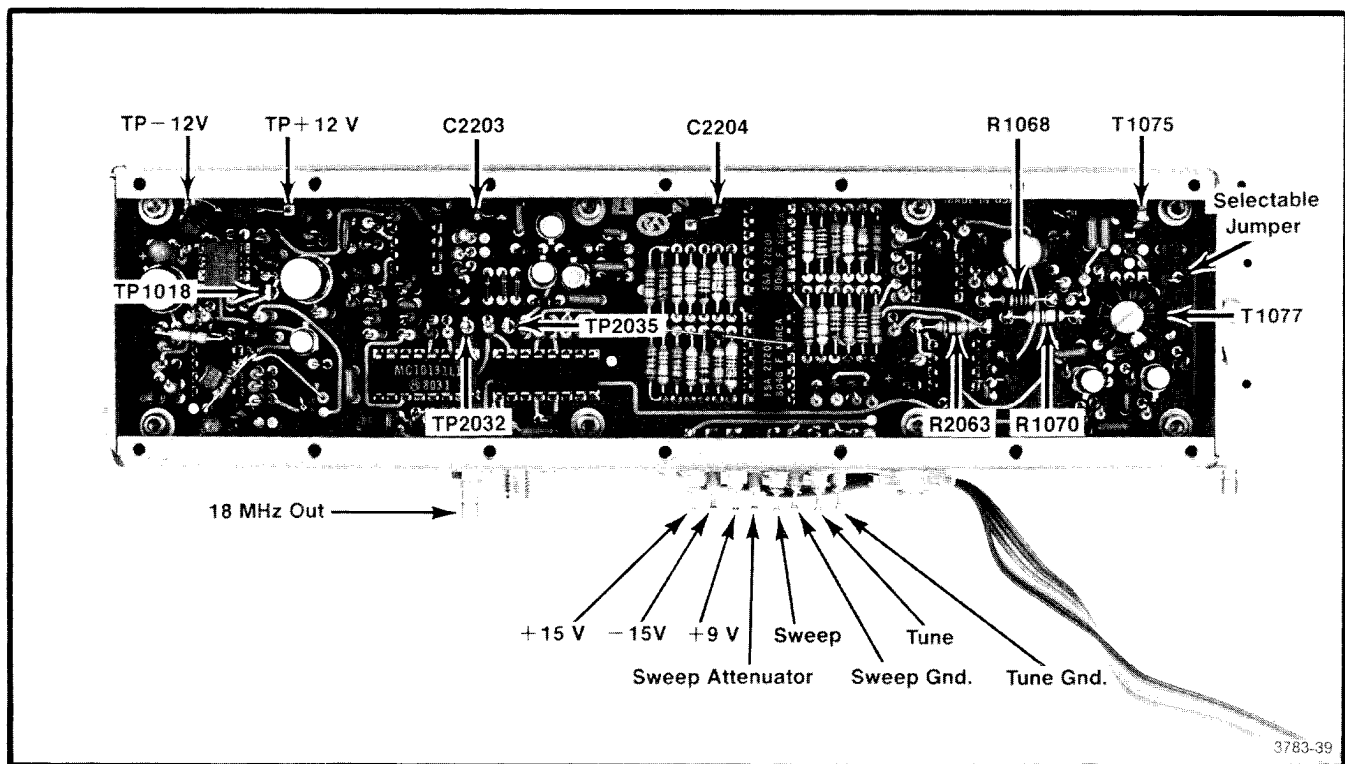
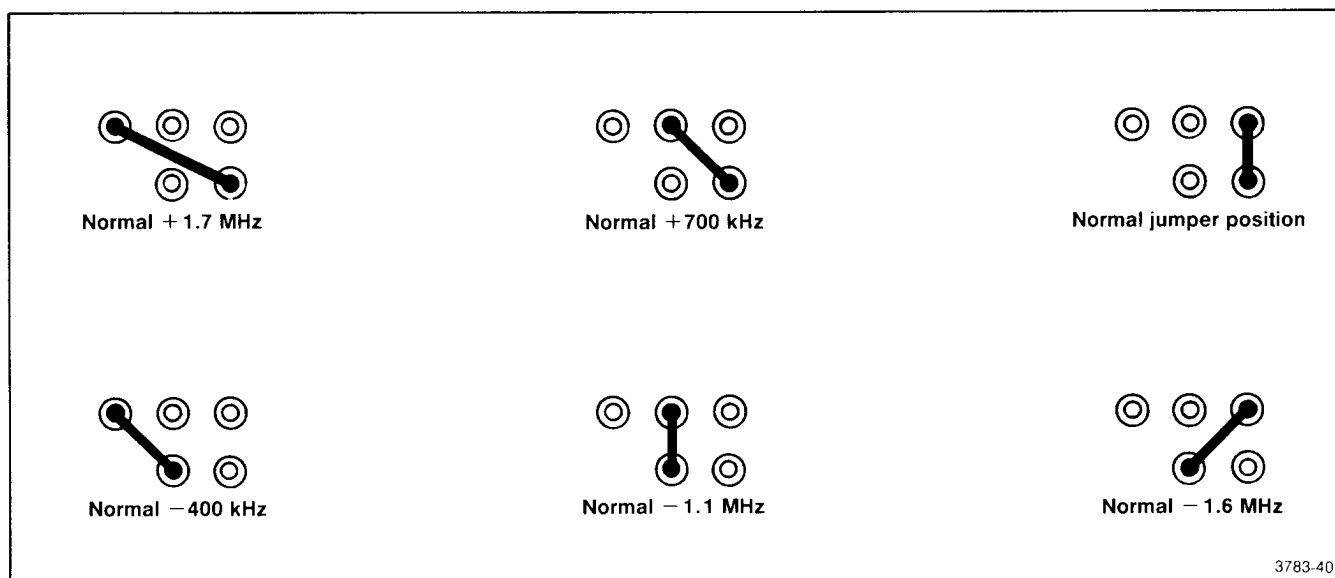

Fig. 4-22. Location of test points and components associated with calibrating the 14-22 MHz Phaselock circuit.
Fig. 4-23. Jumper positions between T1077 and T1075 versus frequency compensation for the 14-22 MHz Oscillator.
b. Remove the 14 screws that hold the cover on the mu-metal section and remove the cover. Unsolder the leads to feedthrough capacitors C2203 and C2204. (These are the center two feedthroughs that feed through the circuit board, as shown in Fig. 4-22.)
a. Check all input voltages at the feedthrough capacitors in the housing wall. Refer to Fig. 4-22 or the voltages printed on the lid. Voltage at the sweep and tune input lines should equal $0\text{ V} \pm 0.05\text{ V}$ with the FREQ SPAN/DIV $\geq 100\text{ kHz}$.
a. Replace select resistors, R2063 (Gain) with a 10 k Ω potentiometer, R1070 (2nd Order Shape) with a 5 k Ω potentiometer, and R1068 (3rd Order Shaper) with 2 k Ω potentiometer (see Fig. 4-22). Center all potentiometers. Install a wire jumper between T1077 and T1075 in the normal position as illustrated in Fig. 4-23. Increase the sweep sensitivity by connecting a 750 Ω resistor from the 2nd LO Sweep input (at C222) to the standoff at the junction of R2063 and pin 2 of U2063.
b. Select the jumper tap combination as shown in Fig. 4-23, so the center frequency is within 500 kHz of 18 MHz.